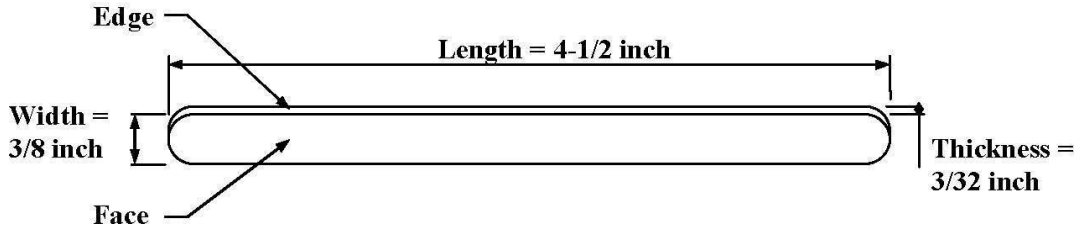

Figure 3.1 Example of a standard popsicle stick
- a. The Popsicle sticks shall be made of wood and have the approximate dimensions as in Figure 3.1. Teams may acquire their own Popsicle sticks or request sticks from the ASCE Younger Member Forum. *The use of any Popsicle sticks made of any other material or of other size will result in disqualification.*